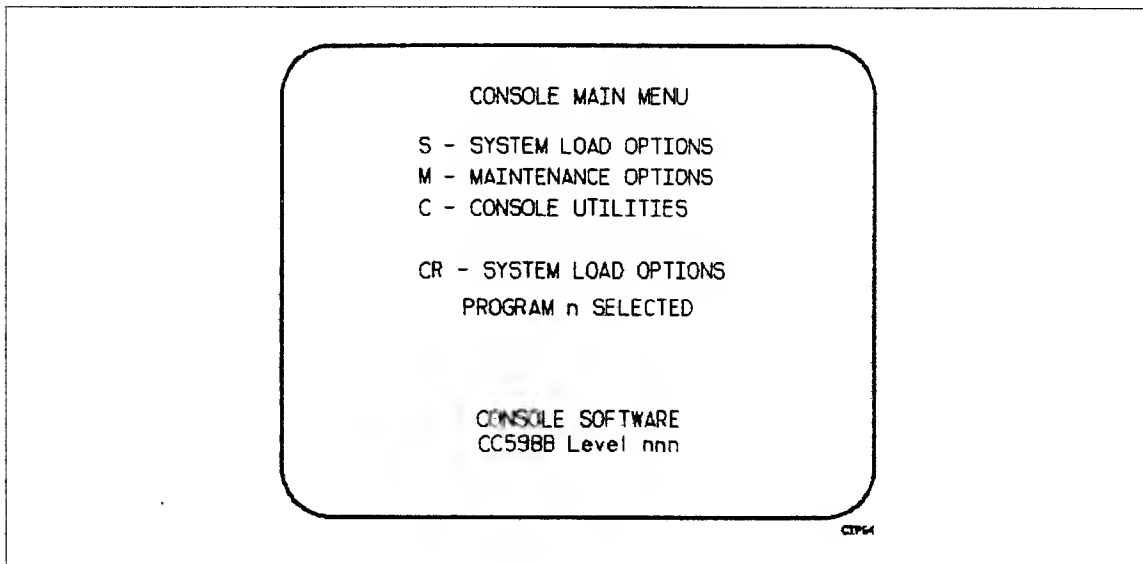

Figure 3-3. Console Main Menu (Dual IOU Systems)
- ___ 1. Complete the following steps to bring up the CONSOLE MAIN MENU (figure 3-3).
- ___ 1. Execute the following steps on your CC598B console to bring up the CONSOLE MAIN MENU (figure 3-3).